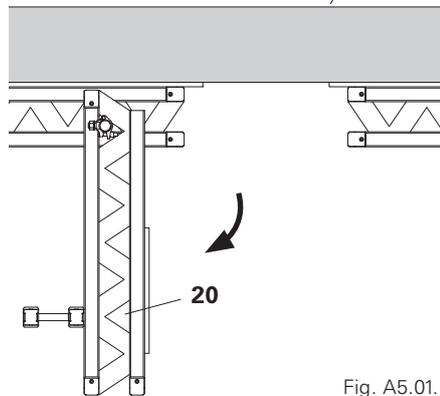

Fig. A5.01.1
2. Remove MP props from compensations (20).
3. Depending on the compensation, these are folded or removed. (Fig. A5.01.1)